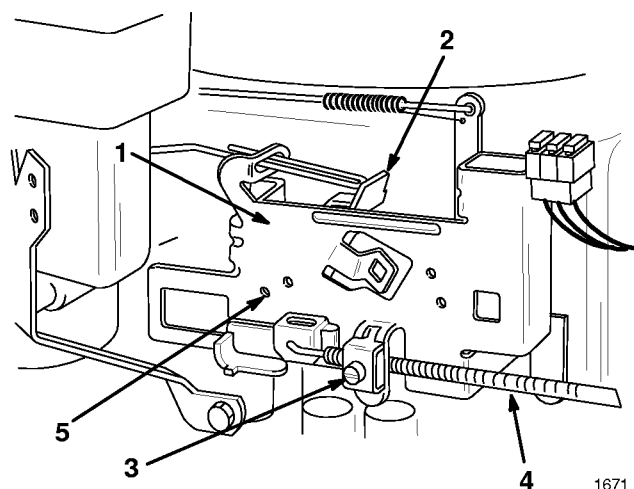

Figure 25
- B. With the throttle in the “FAST” position, index holes in the governor control lever and the governor plate must align (Fig. 25). If they do not align, refer to step 4 for adjustment procedure.
- B. Loosen the throttle cable clamp screw until you can slide the throttle cable casing (Fig. 25).
- C. Move the throttle cable casing until the index holes in the governor control lever and the governor plate align (Fig. 25). Now tighten the cable clamp screw.